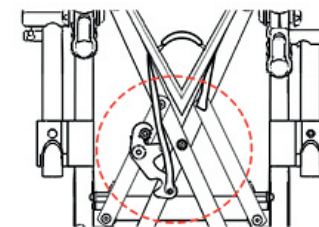

FIGURE 11
b. Lift the safety release handle up and the multifunctional 3N1 Electric rollator will release the safety lock located under the seat allowing you to unfold the multifunctional 3N1 Electric rollator. (Figure 11)